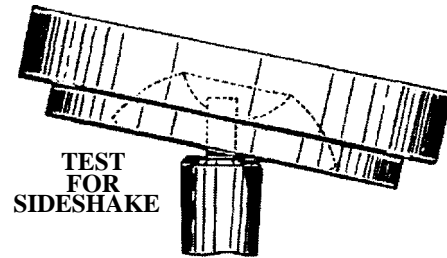

FIG. 12-6
In figure 12-6, the jewel setting is tipped. This shows a slight amount of freedom, which is actually sideshake, between the pivot and hole of the jewel.
4. Try pivot for sideshake (figure 12-6).